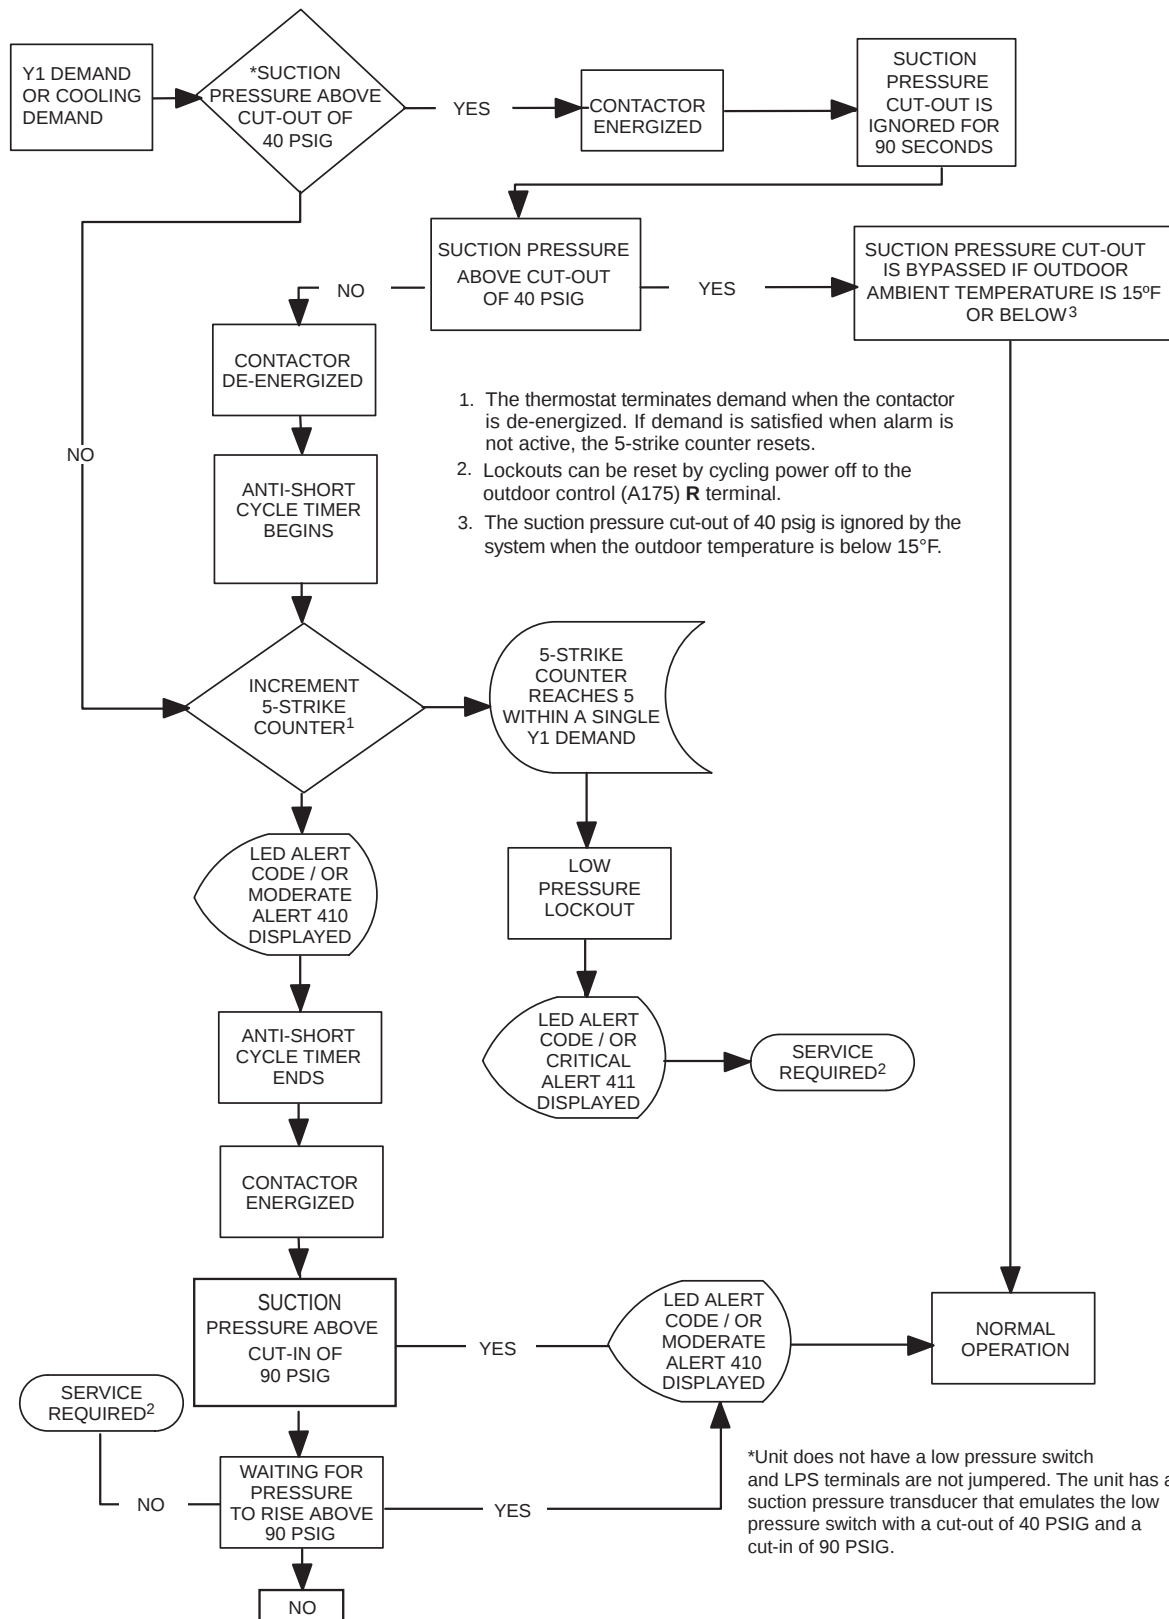

Figure 27. Low Pressure Switch Emulated by Suction Pressure Transducer Sequence of Operation (All Units)
- **High Pressure Switch (HI-PS)** – See figure 27 for high pressure switch sequence of operation.